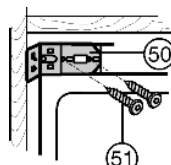
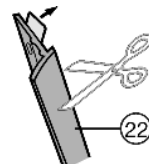

Fig. 16
Fig. 17
- ▶ Loosely screw *Fig. 16 (51)* the mounting bracket *Fig. 16 (50)* to the appliance through the oblong holes.
- ▶ Remove the protective film from the trim *Fig. 17 (22)*. Apply the strip to the bottom edge of the mounting bracket *Fig. 16 (50)* on the side wall of the appliance on the handle side and flush with the front and glue on.
- ▶ If necessary, shorten the trim *Fig. 17 (22)* to the height of the recess.*